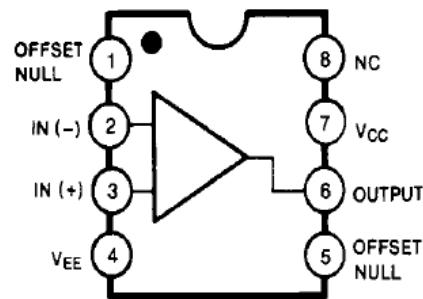
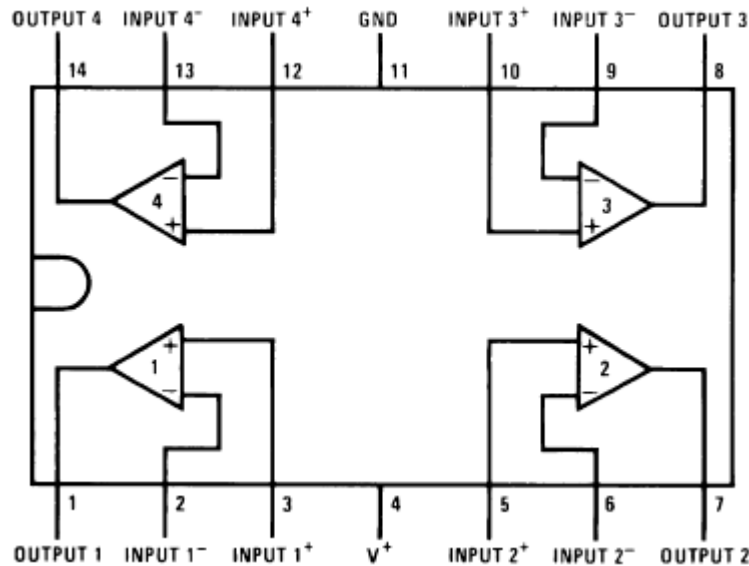
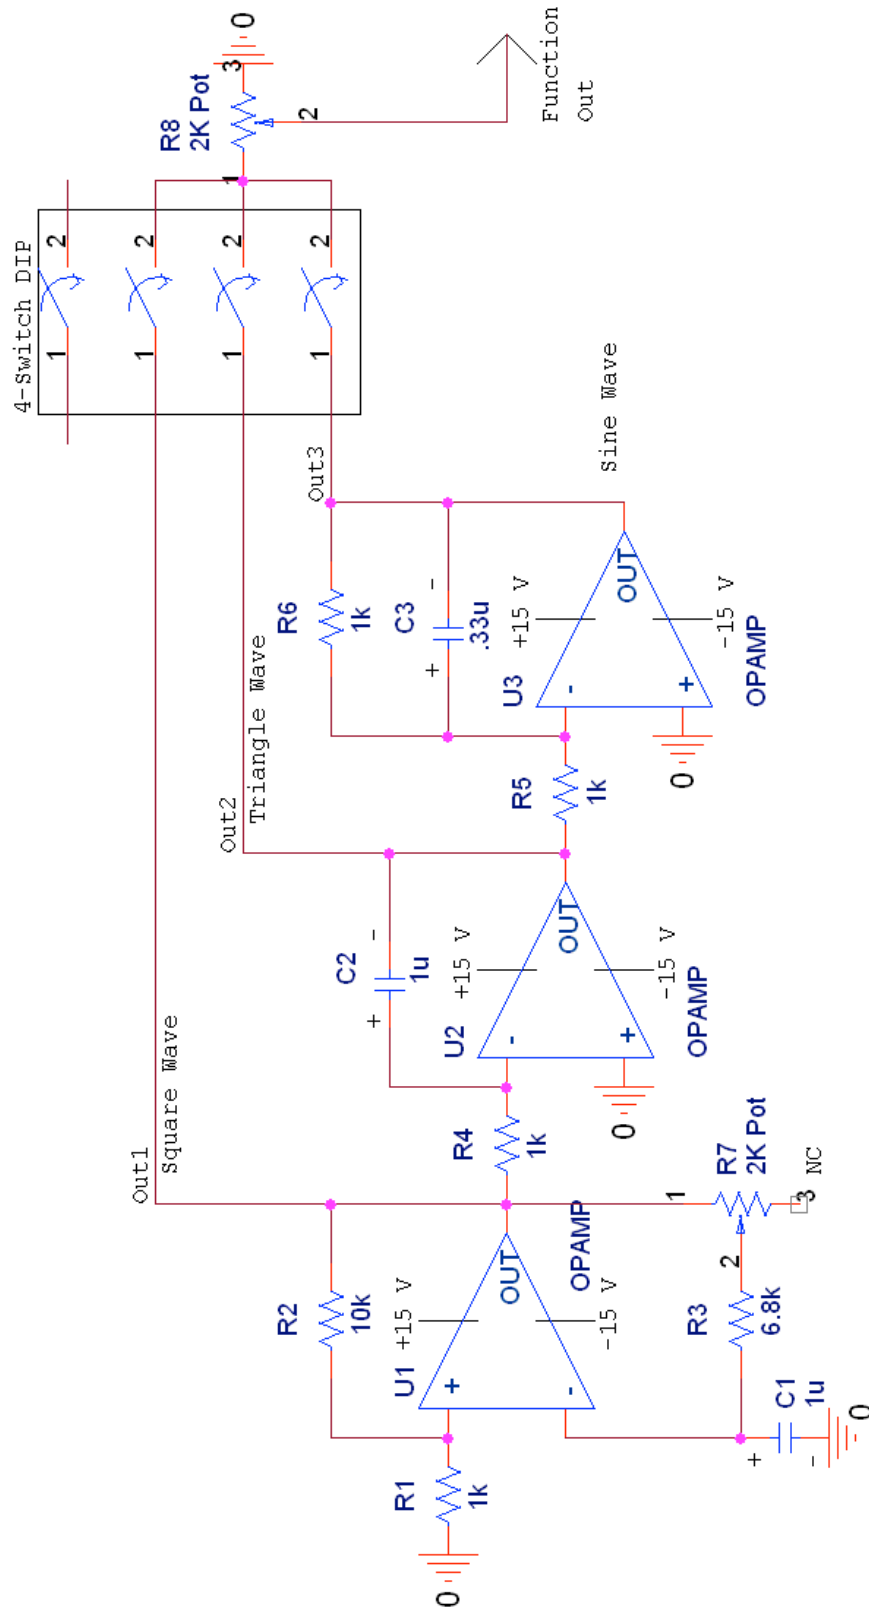

Figure 6: Pin Layout of the LM741 Op-Amp
Figure 7: Pin Layout of the LM324 Op-Amp
Figure 8: Circuit Diagram of the Function Generator
1. Using either three 741 op-amp chips (shown in Figure 6), or one 324 op-amp chip (shown in Figure 7), wire the three stage op-amp circuit shown in Figure 8. The first op-amp stage generates a square wave. The second op-amp stage integrates the square wave to produce a triangle wave. The final op-amp stage is a low-pass filter, removing the higher frequency components of the triangle wave so that it closely resembles a sine wave with the same fundamental frequency. It is recommended you wire one stage at a time (starting with the square wave) and ensure the proper functionality of that stage before wiring subsequent stages.
1. Connect an oscilloscope probe to the point labeled “Function Out” in Figure 8. Select the output from the first op-amp (the square wave). You will now analyze the duty cycle of this square wave. Make sure that R8, the amplitude knob, is adjusted such that there is no resistance between the DIP-switch output and the oscilloscope probe (i.e. such that the amplitude of the output is at a maximum). The potentiometer R7 does not need to be turned to a specific resistance.
3. The potentiometer labeled R7 in Figure 8 controls the frequency of the square wave. Because the triangle and sine waves will have the same frequency as the square wave, this potentiometer is the frequency knob for the function generator. Fill in the following table for the maximum and minimum values of the resistance of the potentiometer, R7, between pins 1 and 2.